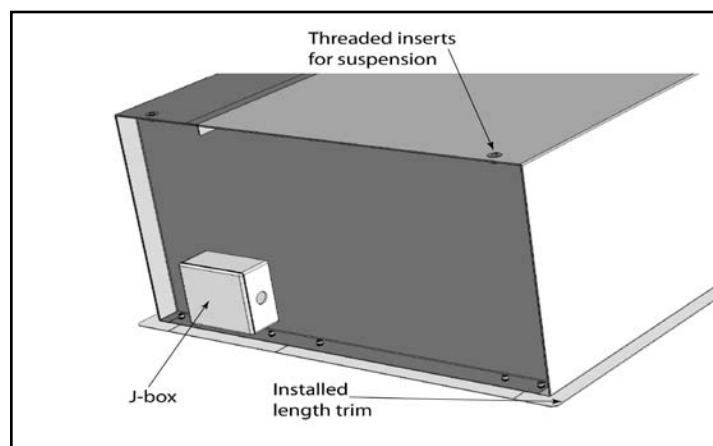

Figure 3
- A. The ICA/FCA series air door enclosure is equipped with four 5/16"-18 threaded inserts on the top of the unit for suspended mounting. **See Figure 3.**
- F. Install the front and back trim using the provided fasteners. **See Figure 3.**